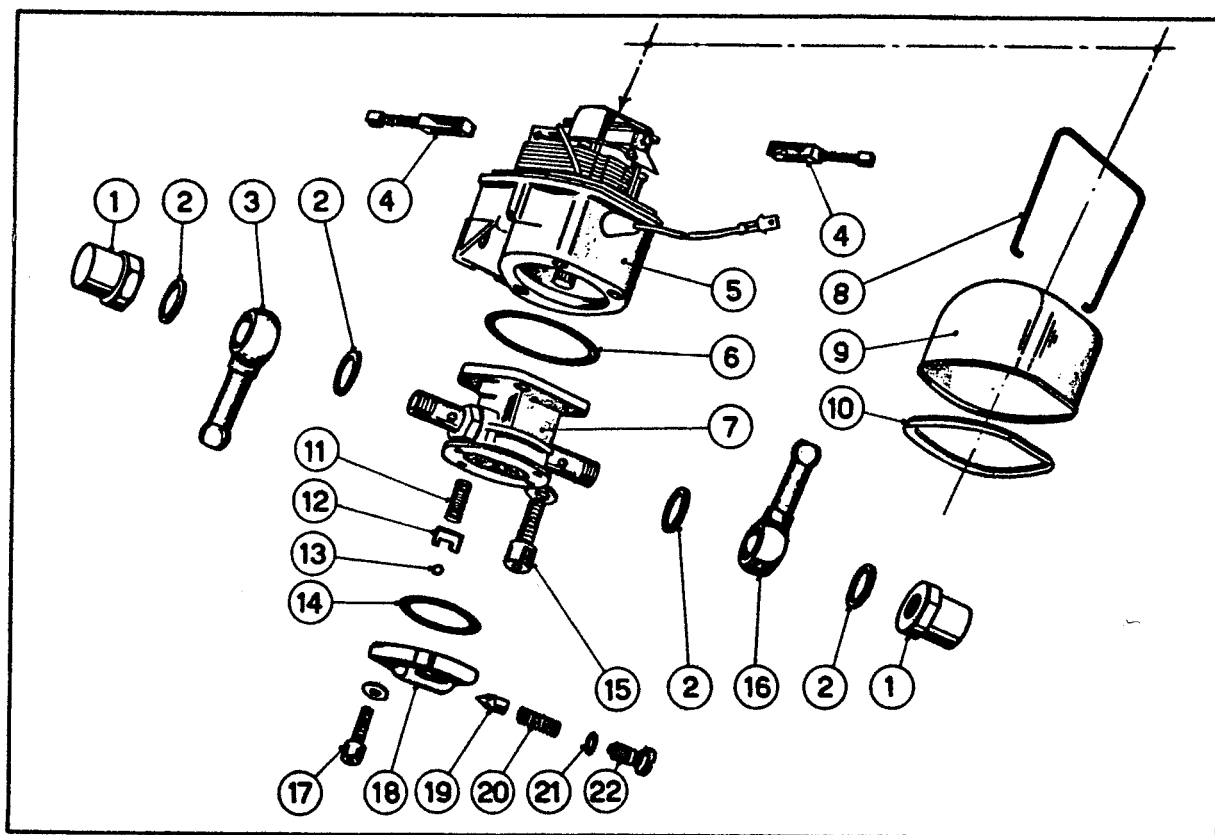

Fig. 3 - Fuel Pump
Test No. 1 (fig. 3)
Plug the delivery hose and, by acting on the screw (22 in figure 3), check whether the cut-out pressure may be brought to 1.5 ± 1.7 atm. (21.3 ± 24.2 p.s.i.); otherwise, proceed to removing, cleaning and if necessary renewing the cone-shaped valve and relevant spring as follows:
A) Checking the Electric Portion (fig. 3)
- Unhook the retainer clamp (8) and lift off the cover (9) and the seal (10).
B) Checking the Mechanical Portion (fig. 3)
- Unscrew the cap nuts (1) and remove the banjo unions (3-16) and the gaskets (2).
- Unscrew the screws (17), pressing the cover plate (18) against the body, so as to prevent the ball (13) and the catch (12), under the thrust of the spring (11), from falling off.